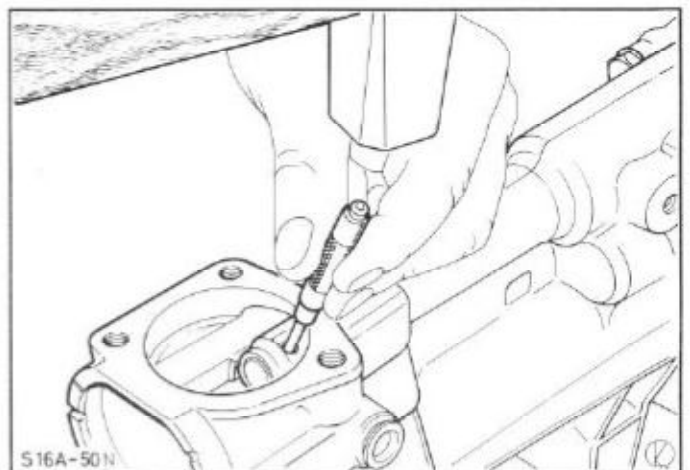

Fig.118. Detach selector crank from shift rod.
8. Detach selector crank from shift rod. To do this, pull shift rod towards the rear in reverse gear and support or brace the selector crank. Then drive out roll pin, Fig.118.